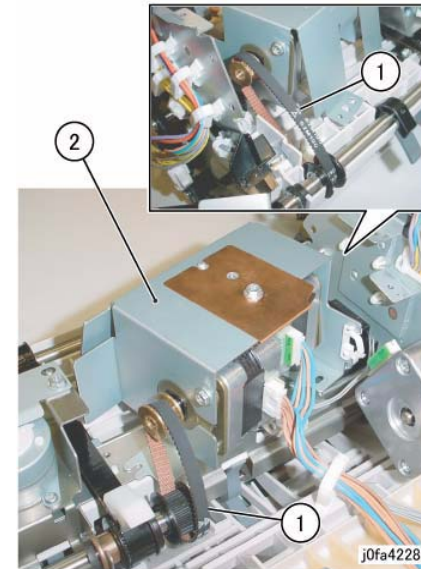

Figure 5 Removing the Eject/Set Clamp Motor Assembly
11. Remove the Eject/Set Clamp Motor Assembly (Figure 5):